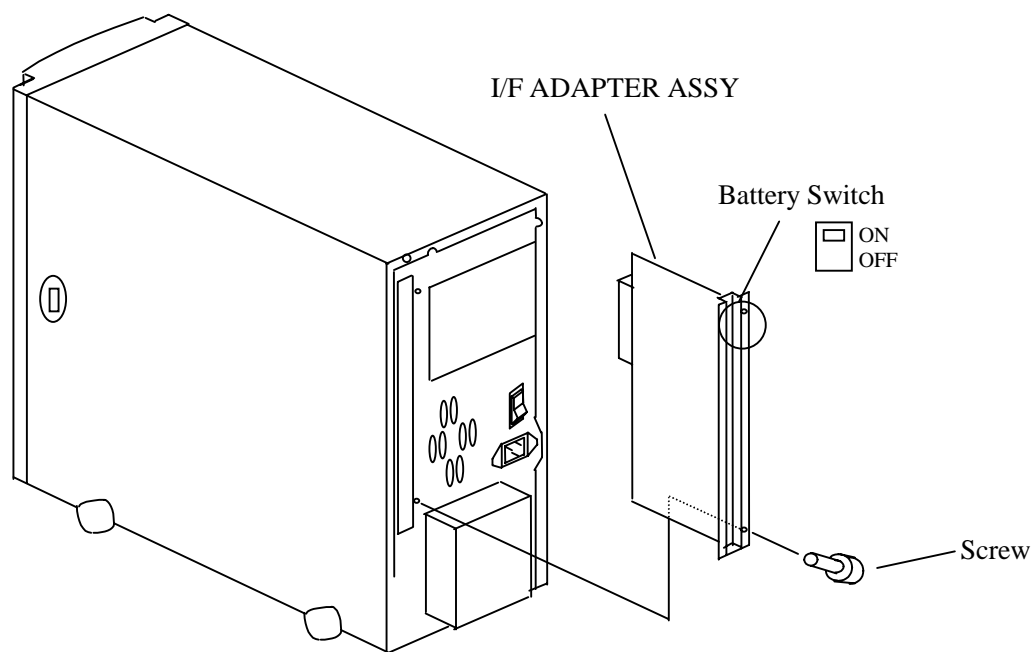

Figure 4.4.6 Setting I/F ADAPTER ASSY
(4) Setting I/F ADAPTER ASSY (See Figure 4.4.6)